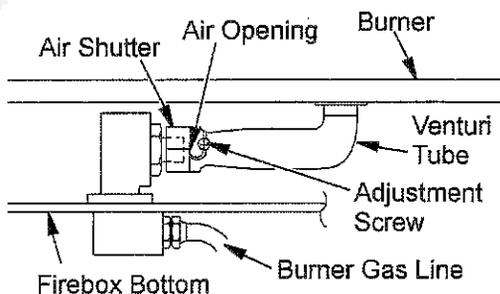

Figure 5 - Removing/Replacing Orifices
4. Insert main burner venturi tube through center cutout in hearth pan. Slide air shutter mount over orifice (see Figure 5). Replace 2 mounting screws.